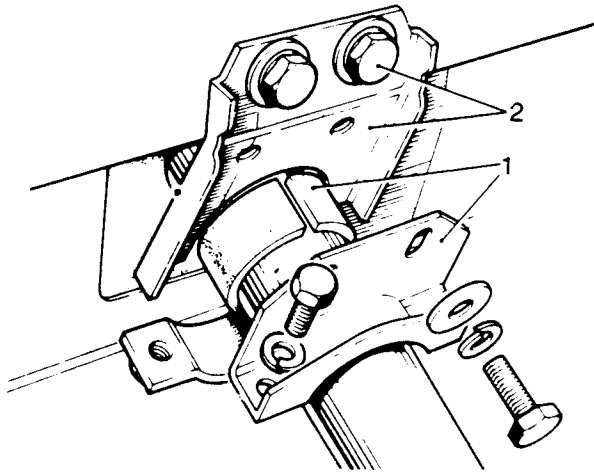

Fig L4.7
- (6) Refer to Fig L4.7. Remove the lower clamp bracket and rubber sleeve (1) from the outer column.
- (7) Remove the upper clamp bracket and support bracket (2) from the bulkhead.